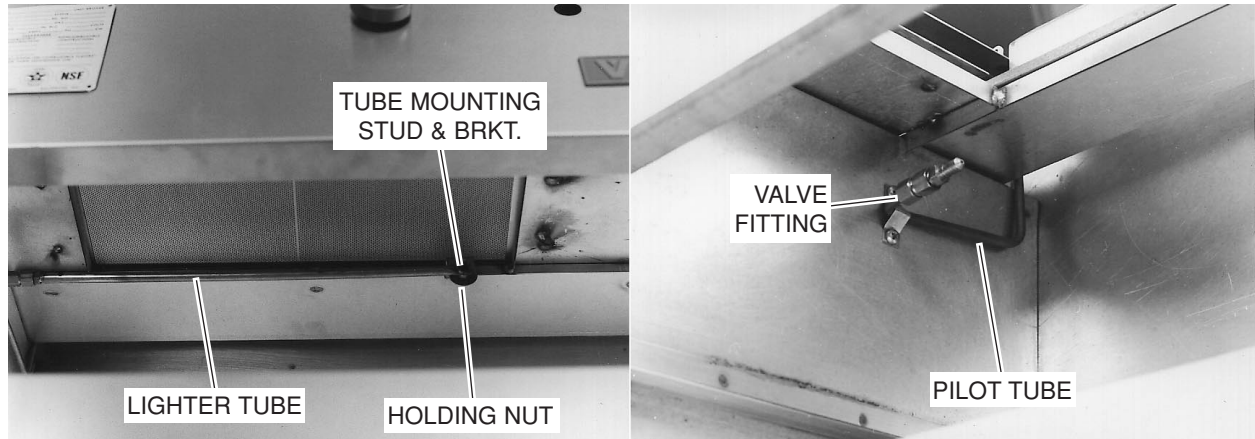

**Fig. 10**
1. To remove the burner nozzle follow steps 1, 2 and 3 under Burner Nozzle Orifice Check. (Fig. 10)